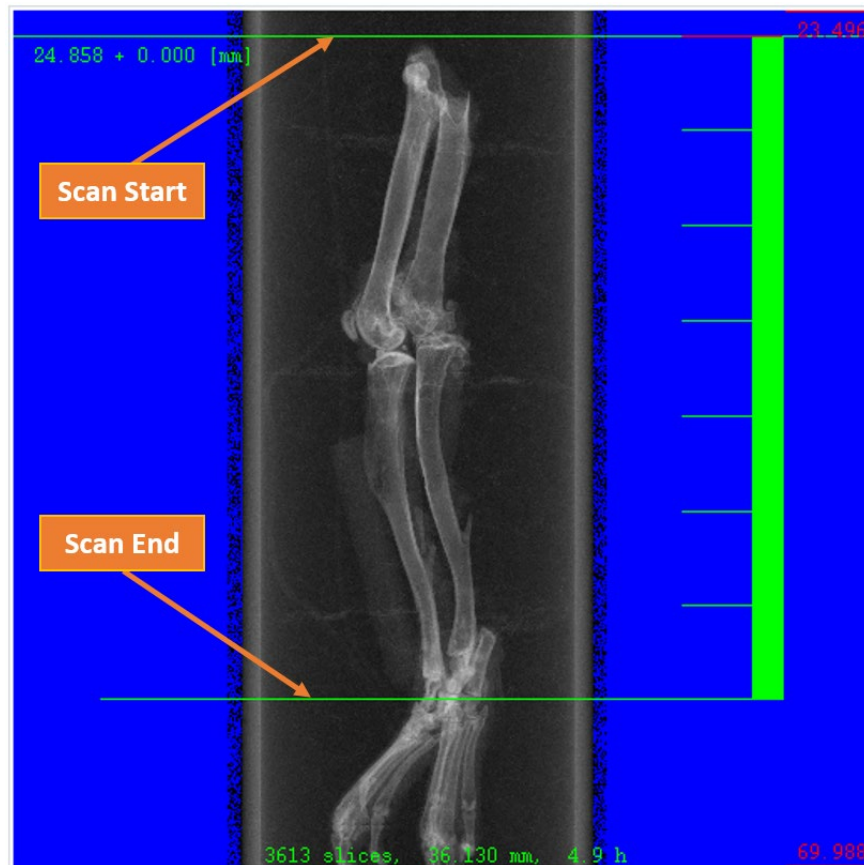

Figure 8: Screenshot of ScoutView w/ locked Reference Marker.
10. When hovering over the ScoutView, hold the shift key to **lock** the top of your reference marker. While the shift key is held, move the mouse vertically up or down to adjust the length of your reference. The length should cover the entirety of your bone of interest. Once satisfied, left-click to **lock** the measurement reference in place. Refer to Figure 8 for help.